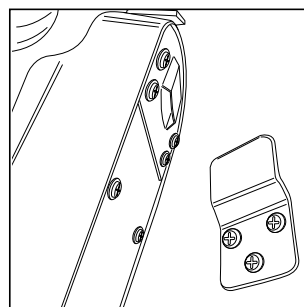

Fig. 4
- Position the rear grid (B) onto the shaft (G) of the motor unit (H) and fix it by inserting and rotating the apposite ring nut (F) clockwise until it locks in place.
- Insert the blade (C) onto the motor shaft (G) and slightly press it.
- Lock the blade (A) by screwing the corresponding front ring nut (C) on the shaft, until it locks in place.
- Assemble the front grid (E) with the rear one (B) by means of the apposite hook (D) on the front grid and lock them together by tightening the corresponding screw with a screwdriver. Close the clips around the front grid edges so that they lock both grids.
- Drill three holes in the wall using the bracket holes (L) as reference. Mount the fixing bracket (L) to the wall by using the 3 screws (M).
- Fit the fan to the wall, inserting the apposite fitting (I) situated on the arm back (N), on the fixing bracket (L) fixed to the wall (Fig. 4).